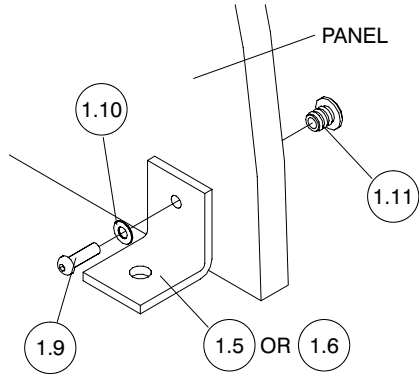

FIG 8
- iv) Attach the fixing lugs, either for an existing surface (1.5) or a new surface (1.6) using M6 x 20 lg Resistox bolts (1.9), washers (1.10) and tee nuts (1.11). Tighten to 3-5Nm (Figs 8 & 9).